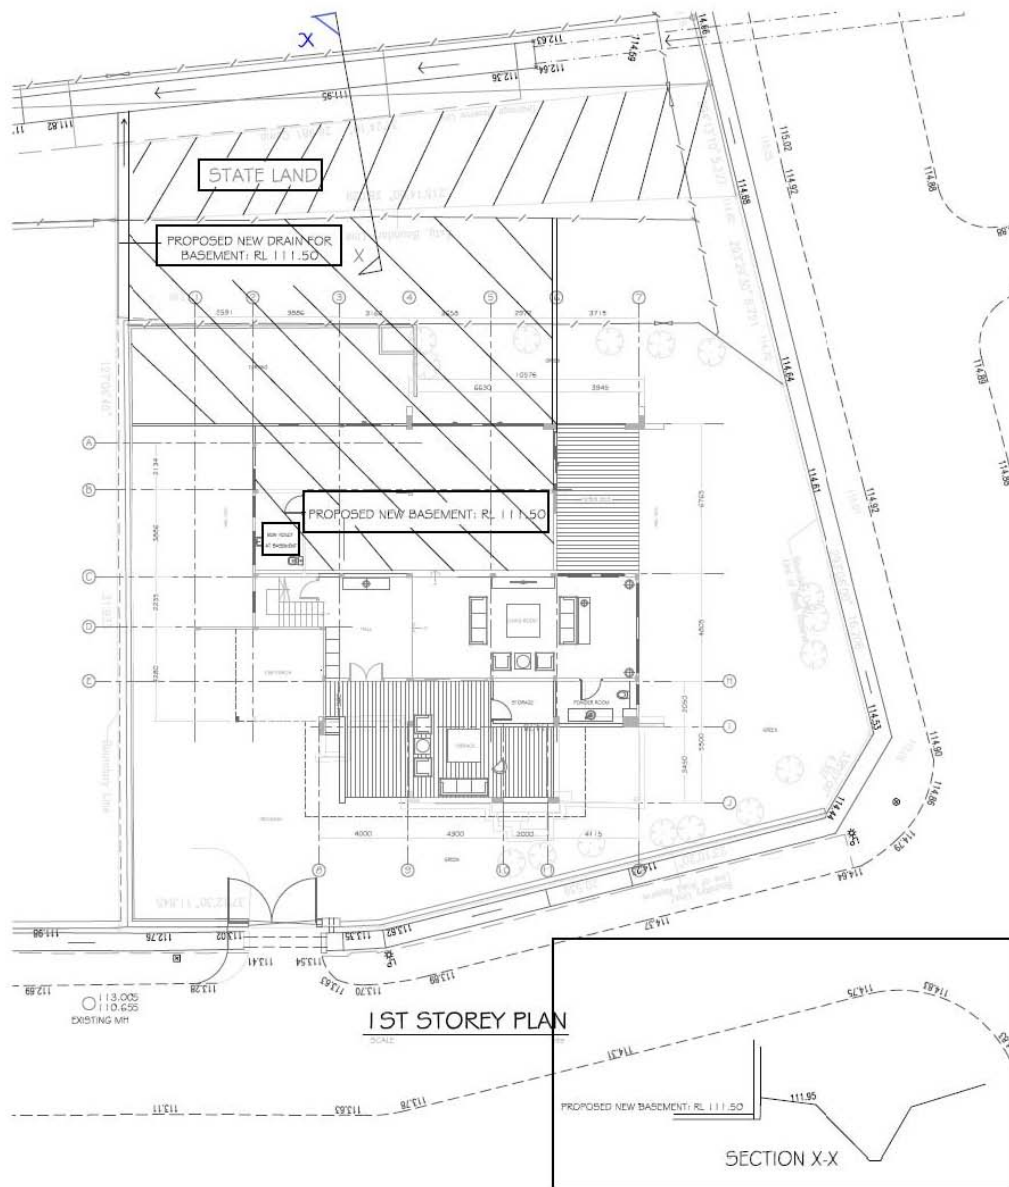

Fig 6-1
- (a) You are appointed as Qualified Person for an A&A project of a bungalow house. The owner would like you to provide a basement at RL 111.50. You are required to propose a feasible sewer system for the discharge of toilet waste from the basement to the existing manhole located on the road outside. Draw the proposed new sewer line layout clearly on a plan (Fig 6-1). (Answer sheet is provided for use. You should attach it to your answer booklets). Your answer shall include the proposed minimum new top level and the invert level of the new manholes. Explain your proposed layout.